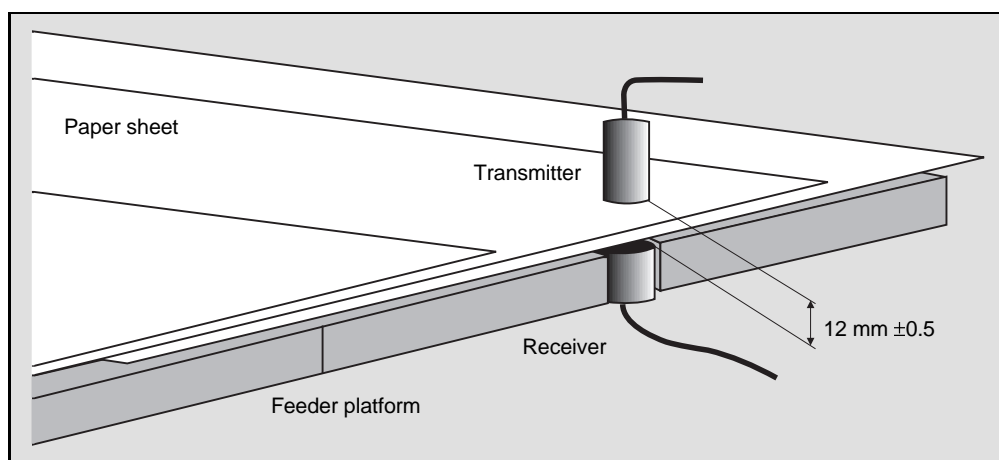

Fig. 4.2: Mounting the optical sensor
- ➔ Mount the transmitter and the receiver centered 12 mm  $\pm$ 0.5 mm apart. The receiver must be mounted flush in the feeder platform. The transmitter must be attached in a way which allows a subsequent readjustment of the transmitter - receiver distance (see Fig. 4.2 and Chapter 5.3, "Adjusting").